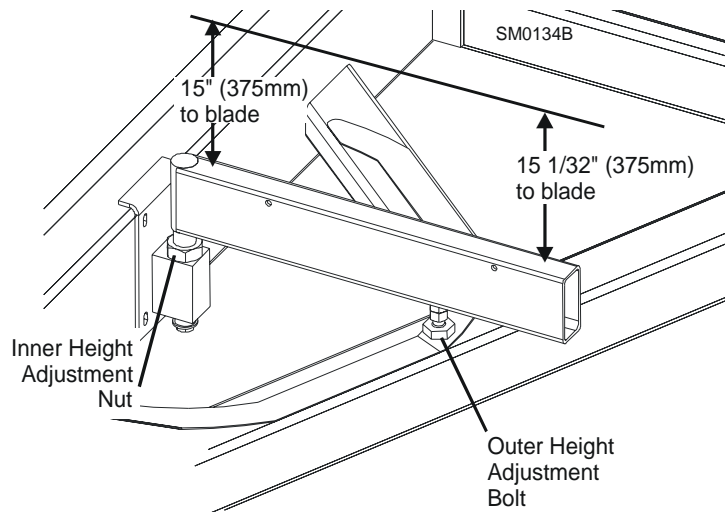

**FIG. 7-23**
**See Figure 7-23.** To adjust the saw head tilt, use the bolts located at the bottom of the saw head mast. Loosen the three sets of four retaining plate bolts. To raise the outside of the saw head, back the stop bolts out, then tighten the adjustment bolts. To lower the outside of the saw head, loosen the adjustment bolts and tighten the stop bolts. Recheck the saw head tilt and readjust the bolts as necessary. Retighten the retaining plate bolts.